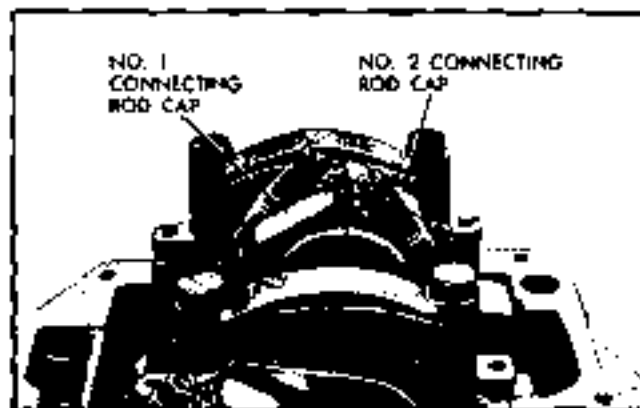

Fig. 6-112 Crankshaft Positioned For Removal of No. 1 and No. 2 Connecting Rod Caps
3. Rotate crankshaft as necessary to bring crank pin carrying bearing to be replaced straight down (Fig. 6-112).
3. Rotate crankshaft so crank pin carrying assembly to be replaced projects straight downward (Fig. 6-112).